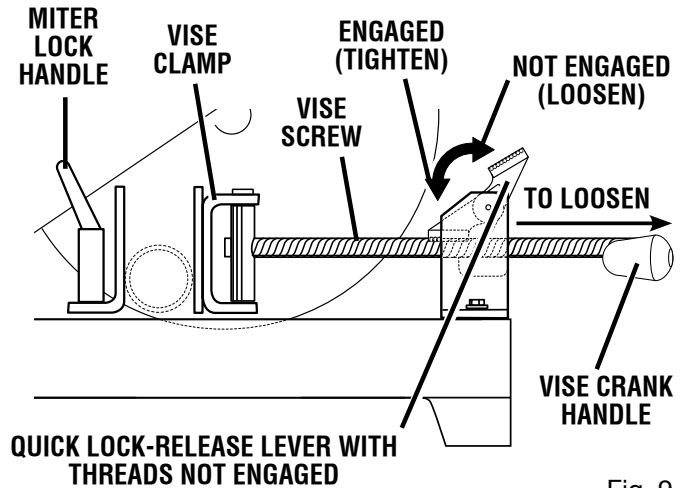

Fig. 9
See Figure 9.
- Lift up the quick lock-release lever as shown in figure 9 and pull back on vise crank handle to slide open the vise.